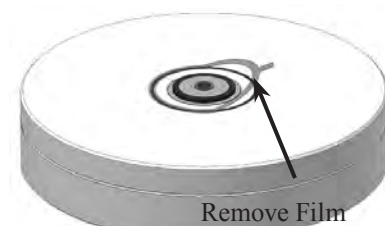

Figure 16
14. Remove the protective film from the bottom of the Turntable Platter covering the Optical Ring. Refer to figure 16.